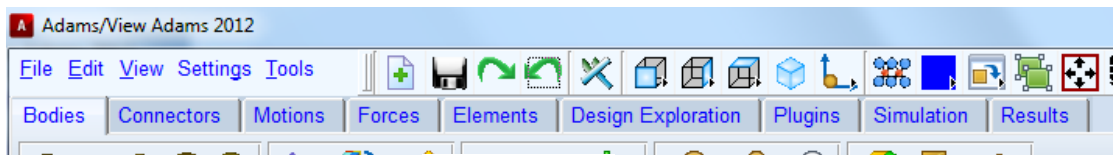

Figure 2.5
- In the “Set the view orientation”-menu (Figure 2.5)
- In the “Set the view orientation”-menu (Figure 2.5) choose “Set the view orientation to Front”.